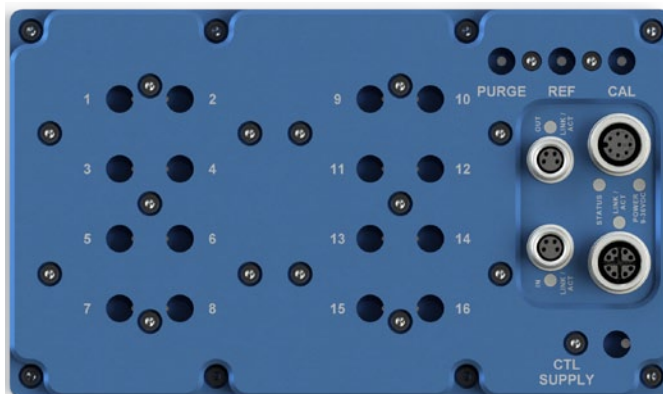

FIGURE 2.1 - DSA5000 STANDARD 16Px TOP VIEW
The DSA5000 Standard 16Px module provides 16 channels of the same pressure range sensors. These 16 pressure transducers are configured into two (2) groups of eight (8) each. Each group of eight (8) transducers shares a common calibration valve and a common reference manifold. Single range modules tie the two reference manifolds together, and the two calibration valves together internally to provide the user with a single reference and a single calibration port. In this configuration, all pressure values provided by the sensors will be a 'differential' pressure value between the Px Inputs and the common reference port. If the common reference port is left open to atmospheric pressure, the pressure values at the Px ports will be a 'gauge' measurement value. Figure 2.1 depicts the top panel of a DSA5000 Standard 16Px.